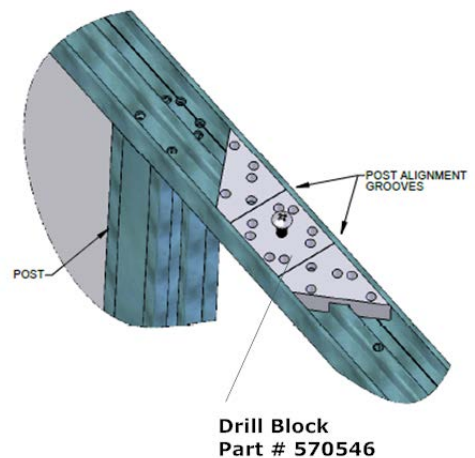

Figure 12
- If new holes are needed in the headers to attach to post, use the drill block part # 570546 (order separately). **See Figure 12.**